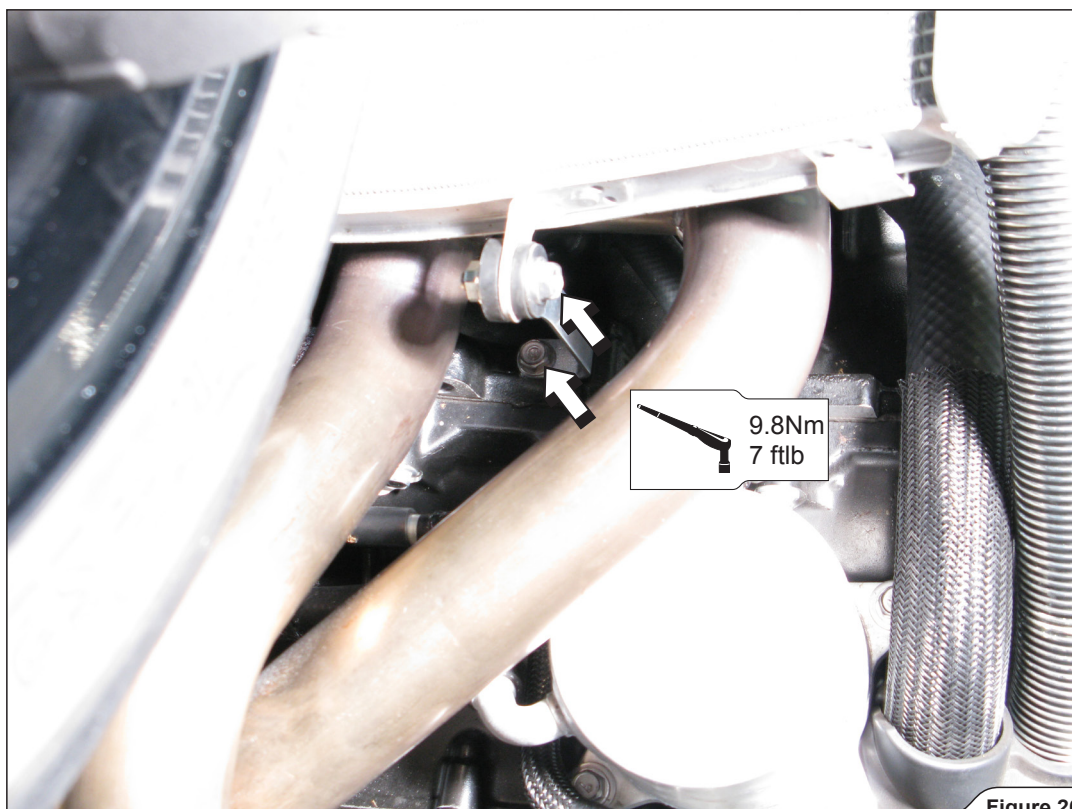

Figure 26
8. **For Optional Headers only:** reattach and tighten the water cooler bracket (**Figure 26**).